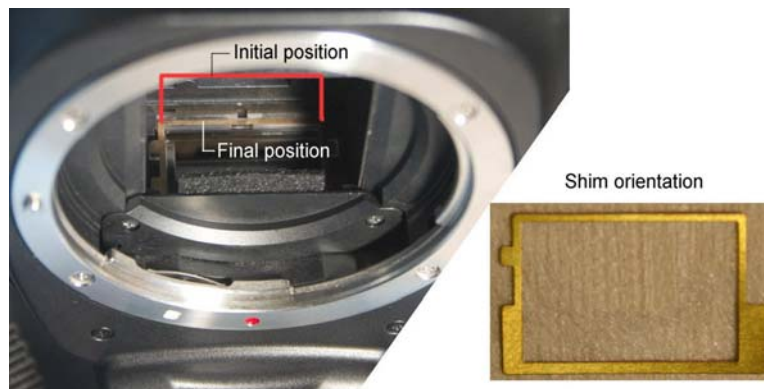

Figure 7. Installation of shim
37. If the shim is totally dislodged, it is easiest to replace by taking the camera to hand with its top down and the lens mount facing you. Figure 7 shows the camera in this new orientation.
38. With the shim oriented as shown in figure 7, drop it into about the spot where it goes. The edge near you will need to be under the foam pad (as seen from your vantage point), and so that edge should be put in first. The shim will probably land too far toward the back of the camera (as seen in the figure in red). Move it into the proper final position with the tweezers.